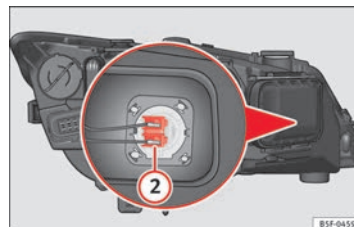

Fig. 190 Main beam headlight bulb.
- Slide connector ⇒ Fig. 190 ② to the left or right and pull. ►